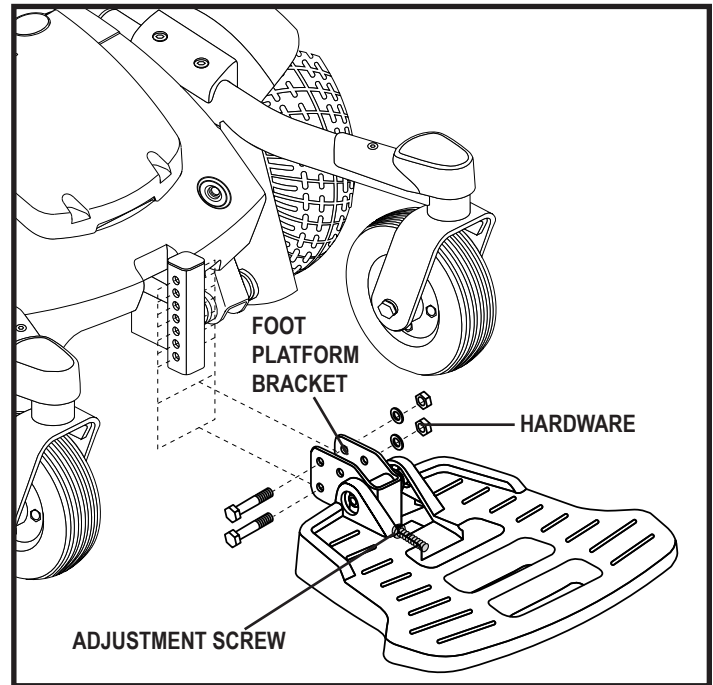

Figure 10. Seat Foot Platform Adjustment
1. Remove the hardware from the foot platform bracket. **See figure 10.**
You can adjust the angle of the foot platform. **See figure 10.**